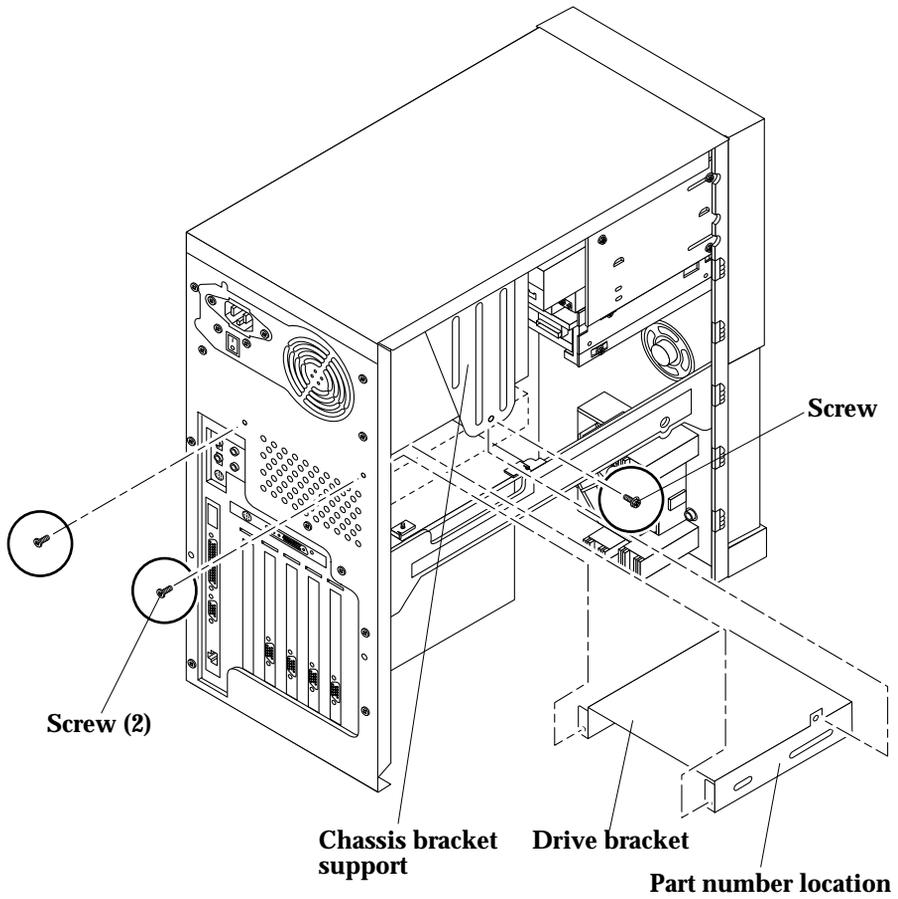

FIGURE 8-17 Removing and Replacing the Rear Drive Bracket
5. Remove the rear drive bracket from the Ultra 10 as follows (FIGURE 8-17):
1. **Replace the rear drive bracket into the Ultra 10 as follows (FIGURE 8-17):**